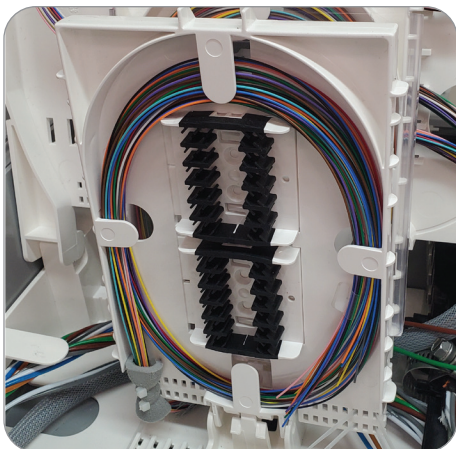
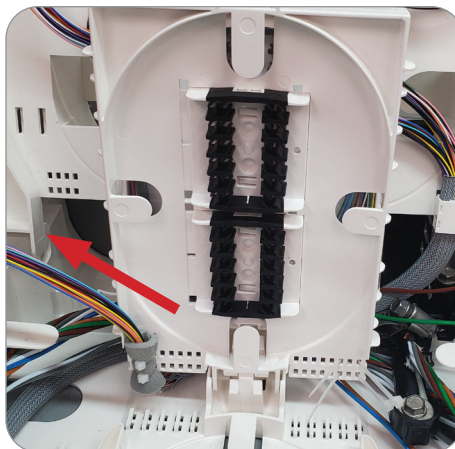

Figure 85
Figure 86
3. Elevate the splice trays so that they sit in the open position and begin by removing the cover off the lower splice tray (**Figure 85**). Uncoil the factory installed fibers in the splice tray and carefully set the tails out of the way (**Figure 86**).